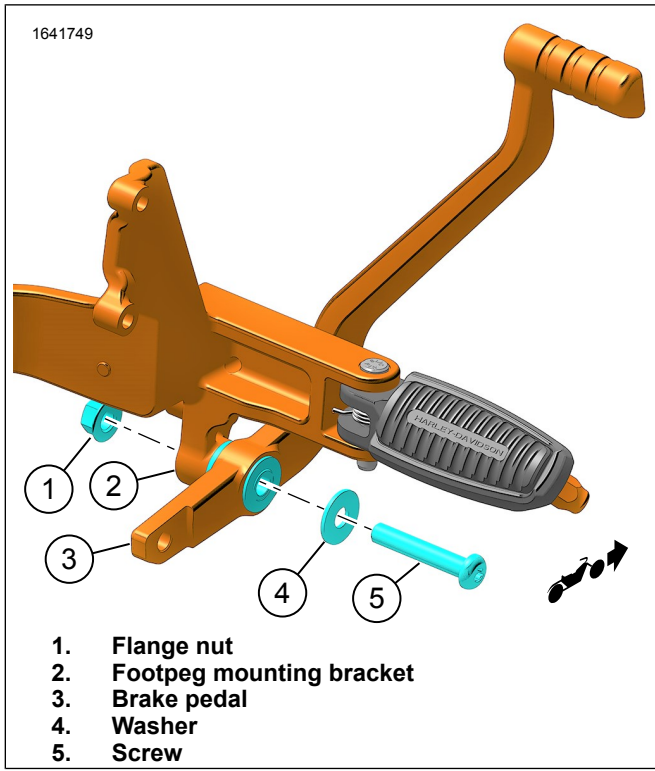

Figure 9. Brake Pedal
1. See Figure 9. Install brake pedal.
- a. Install brake (3) to footpeg mounting bracket (2).
- b. Install washer (4) and screw (5).
- c. Install flange nut (1). Tighten.